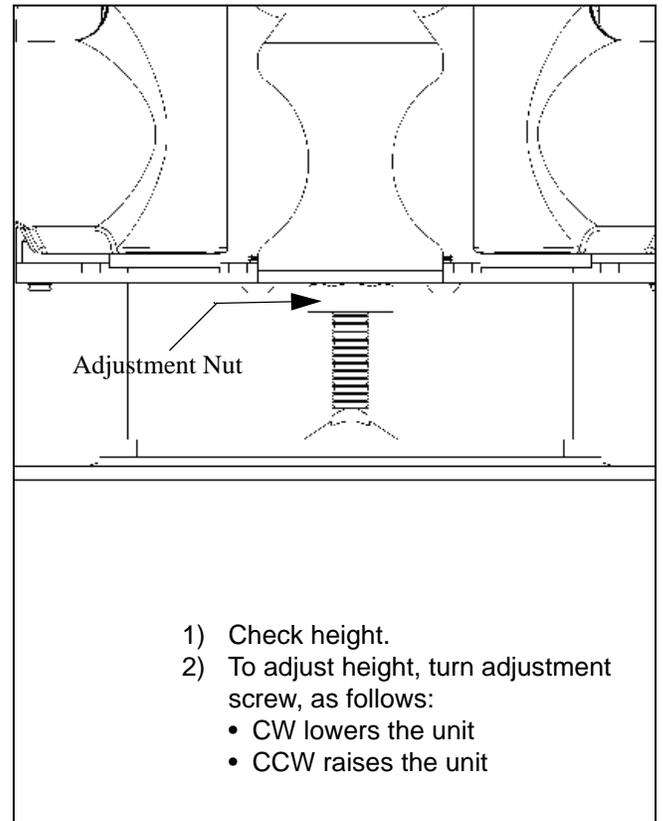

Figure 4: Adjust Height
1. Turn adjustment nut (see Figure 4) clockwise (CW) to lower the unit height, or